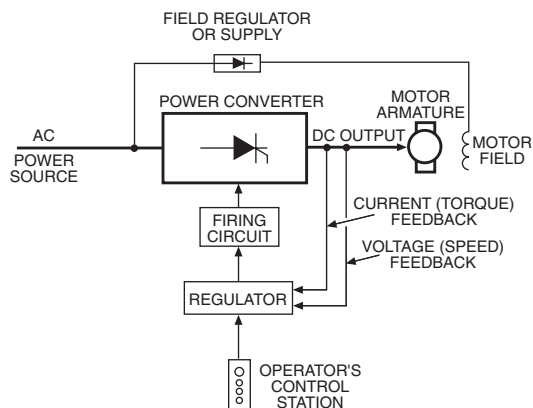

FIGURE 2. Typical DC Drive
DC drives, because of their simplicity, ease of application, reliability and favorable cost have long been a backbone of industrial applications. A typical adjustable speed drive using a silicon controller rectifier (SCR) power conversion section, common for this type unit, is shown in Figure 2. The SCR, (also termed a thyristor) converts the fixed voltage alternating current (AC) of the power source to an adjustable voltage, controlled direct current (DC) output which is applied to the armature of a DC motor.